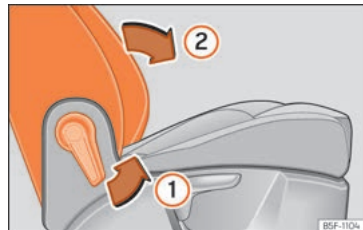

Fig. 161 Front passenger seat: lever for folding down the backrest.
- Pull lever  **Fig. 161** and push the seat backrest  until the backrest is horizontal.